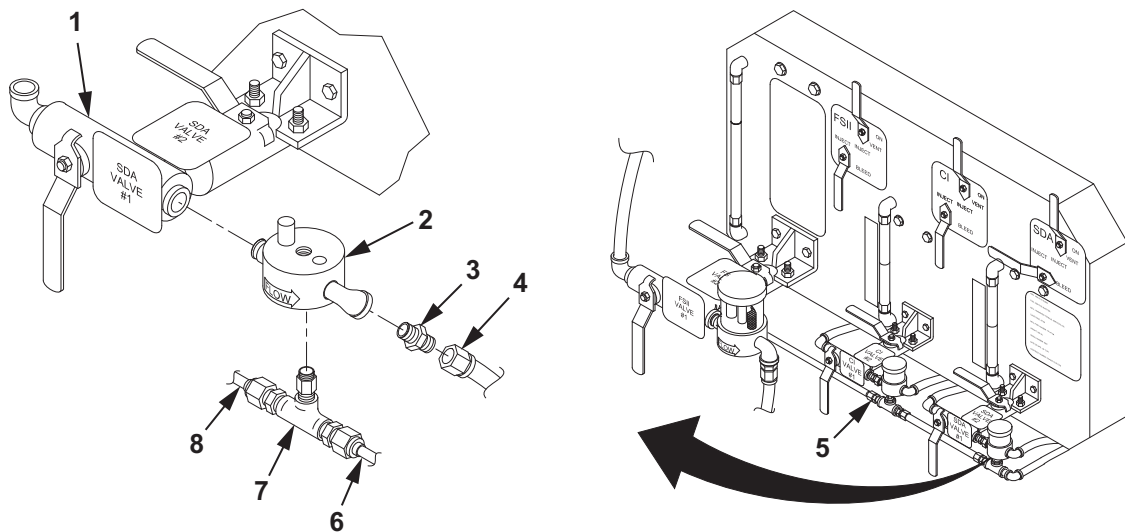

Figure 1. SDA Sight Flow Indicator Maintenance.
1. Apply teflon tape to threads of SDA sight flow indicator (Figure 1, Item 2).
2. Install SDA sight flow indicator (Figure 1, Item 2) on valve (Figure 1, Item 1).
3. Apply teflon tape to threads of tee assembly (Figure 1, Item 7).
4. Install tee assembly (Figure 1, Item 7) to bottom of SDA sight flow indicator (Figure 1, Item 2).
5. Connect tube (Figure 1, Item 8) to tee assembly figure 2, Item 7) and turn SDA sight flow indicator (Figure 1, Item 2) clockwise slightly until tube (Figure 1, Item 8) can be connected to CI sight flow indicator (Figure 1, Item 5). Tighten tube (Figure 1, Item 8).
6. Connect tube (Figure 1, Item 6) to tee assembly (Figure 1, Item 7) at bottom of sight flow indicator (Figure 1, Item 2). Tighten tube (Figure 1, Item 4).
7. Install reducer (Figure 1, Item 3) on SDA sight flow indicator (Figure 2, Item 2). Tighten reducer (Figure 1, Item 3).
8. Connect hose assembly (Figure 1, Item 4) to reducer (Figure 1, Item 3). Tighten hose assembly (Figure 1, Item 4).